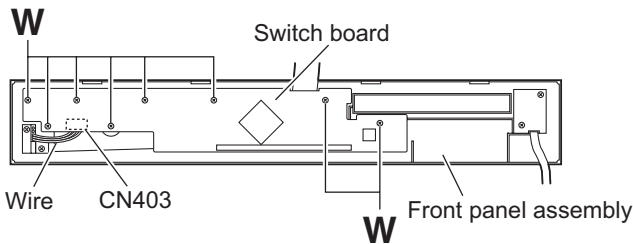

Fig.2
2.2.2 Removing the switch board (See Figs.2 and 3.)
- (1) From the inside of the front panel assembly, disconnect the wire from the connector CN403 on the switch board. (See Fig.2.)
- (2) Remove the eight screws W attaching the switch board, take out the switch board. (See Fig.2.)